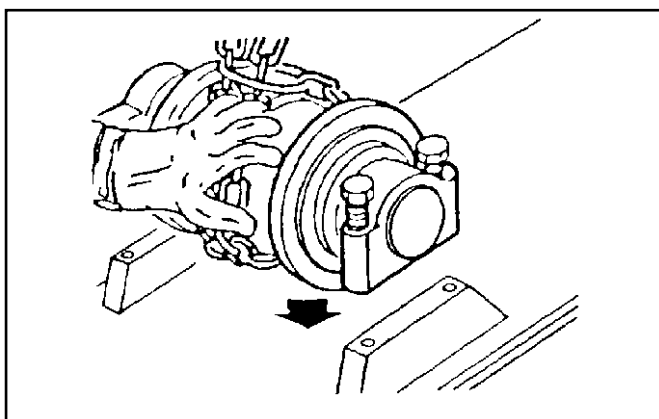

Fig. 3-89 Support Roller - install
7. Install support roller on track frame (fig. 3-89). Torque capscrews according to "Metric Bolt Torque Specifications" in this section.